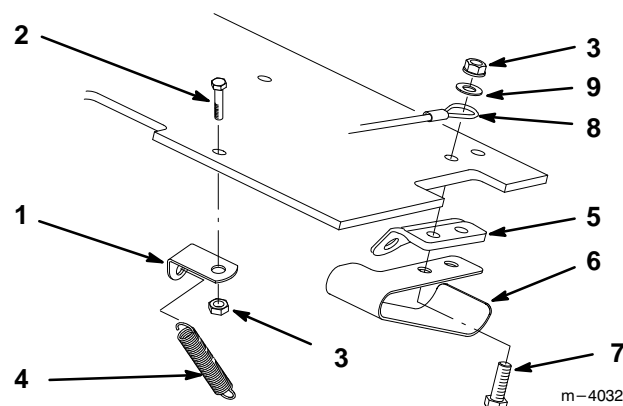

Figure 1
- 1 Remove the existing spring and spring bracket from below the traction unit control plate (Fig. 1). Save the spring bracket for use on the chute. Discard spring-long.
- 2 Attach the new, long spring bracket below the traction unit control plate with the existing bolt in the front left hole, down from the top, and secure it with the existing locknut (Fig. 1). Hook the short chute spring into the bracket.
- 3 Remove the existing hardware from the left brake bracket below the traction unit control plate (Fig. 1).
- 4 Attach the guard, below the brake bracket, with a new 3/8-16 x 1-1/4" (32 mm) bolt in the front hole. Include the cable and secure with the existing washer and locknut above the control plate. Use the existing rear bolt and locknut (Fig. 1).